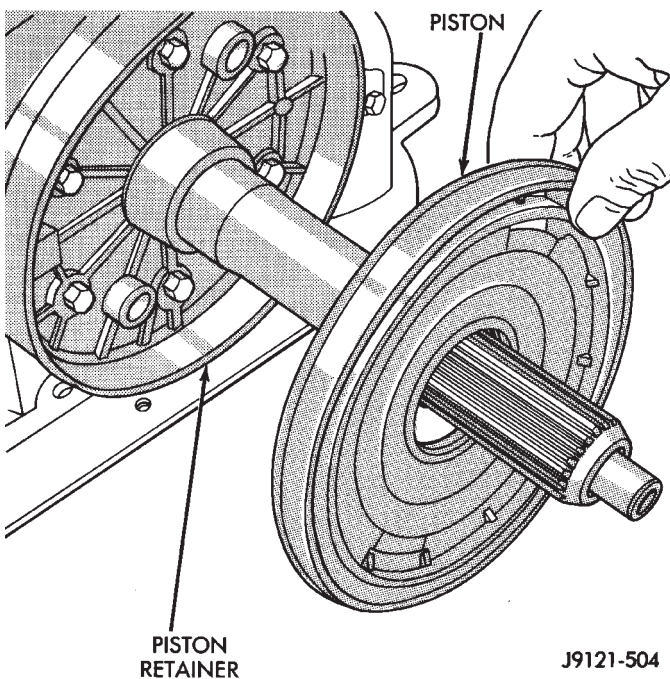

Fig. 6 Removing Overdrive Piston—46RH
- (8) Remove overdrive piston from retainer (Fig. 6).